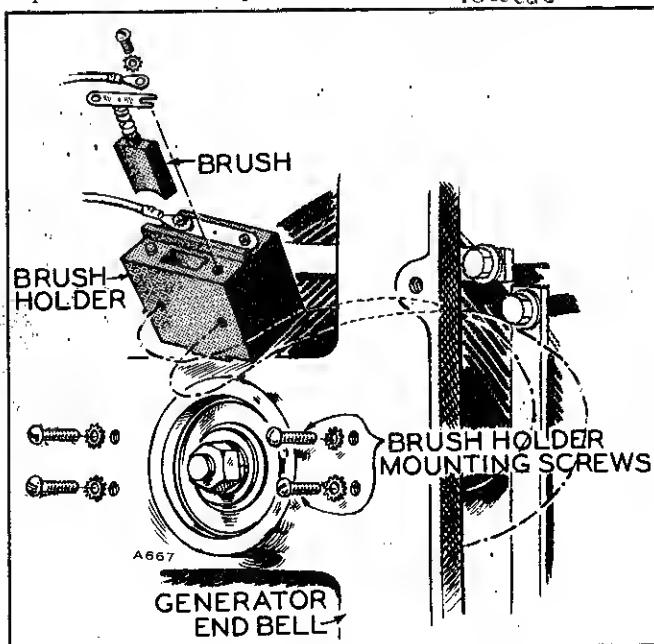

FIGURE 79. BRUSH REMOVAL
To examine the brushes, brush springs and slip rings, remove the exciter cover at the rear end of the generator. The exciter mounts on a hinged plate. Remove the screws from the right side of the plate and swing the assembly outward. To remove the brush holders, unscrew the four machine screws on the endbell near the ballbearing (Fig. 79.)
3. Remove the four machine screws on the end bell near the bearing and lift out the brush holders. (Fig. 79).